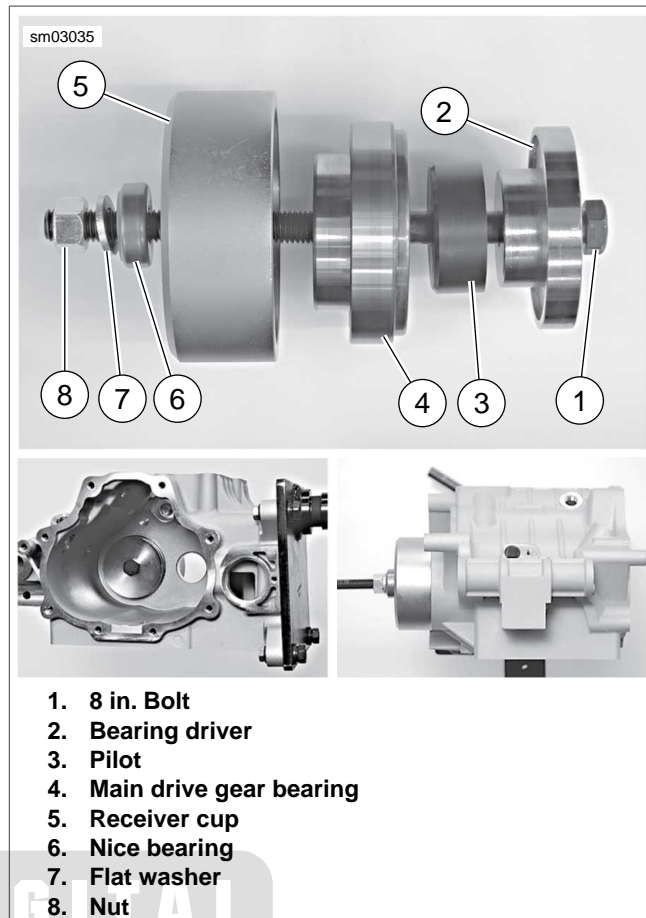

Figure 6-36. Removing Main Drive Gear Bearing
13. See Figure 6-36. Slide PILOT (Part No. HD-35316-10) (3) over small end of BEARING DRIVER (Part No. HD-35316-9) (2).
14. Apply a light coat of graphite lubricant to the threads of the 8 IN. BOLT (Part No. HD-35316-4A) (1) and insert through bearing driver and pilot.
15. Insert bolt with bearing driver and pilot into right side of transmission case, through main drive gear bearing (4). Make sure bearing driver fits up against main drive gear bearing and pilot is centered in bearing bore.
16. At left side of case, slide RECEIVER CUP (Part No. HD-35316-11) (5) onto bolt and over main drive gear bearing. Install NICE BEARING (Part No. RS-25100-200) (6), flat washer (7) and nut (8) over end of bolt.